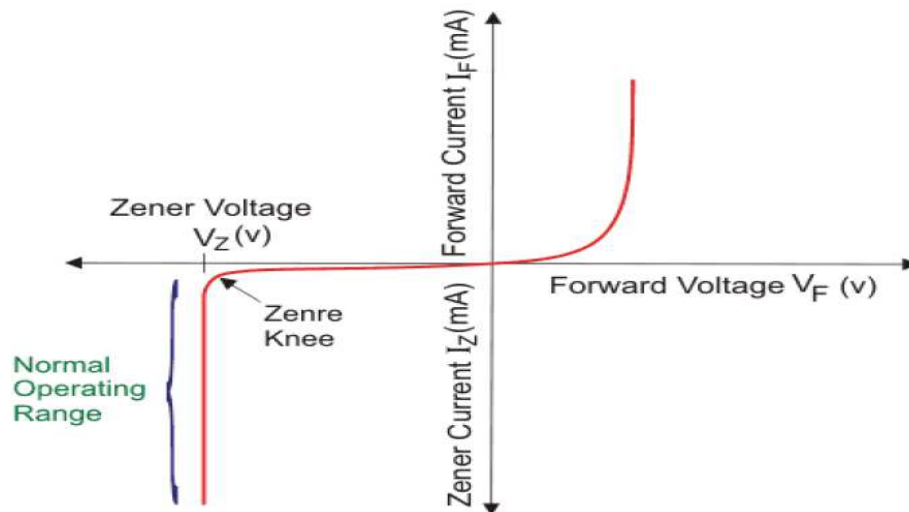

Fig. 5.11 V-I characteristics of Zener diode
- VI characteristic of Zener diode is shown in figure 5.11.